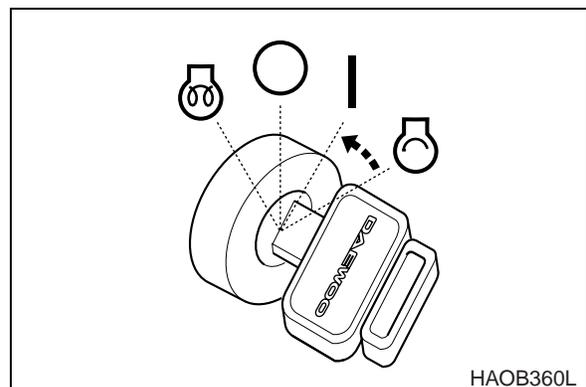

Figure 5
5. After engine has started, release key. Key will return to “I” (ON) position (Figure 5).